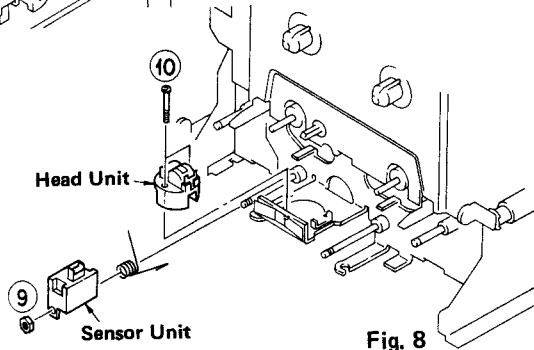

Fig. 8
- b. If you will remove Hexagonal Nut (9) of Fig. 8, Sensor Unit is taken off.
- c. Remove 2 screws of (10) of Fig. 8. Then Head Unit is taken off.